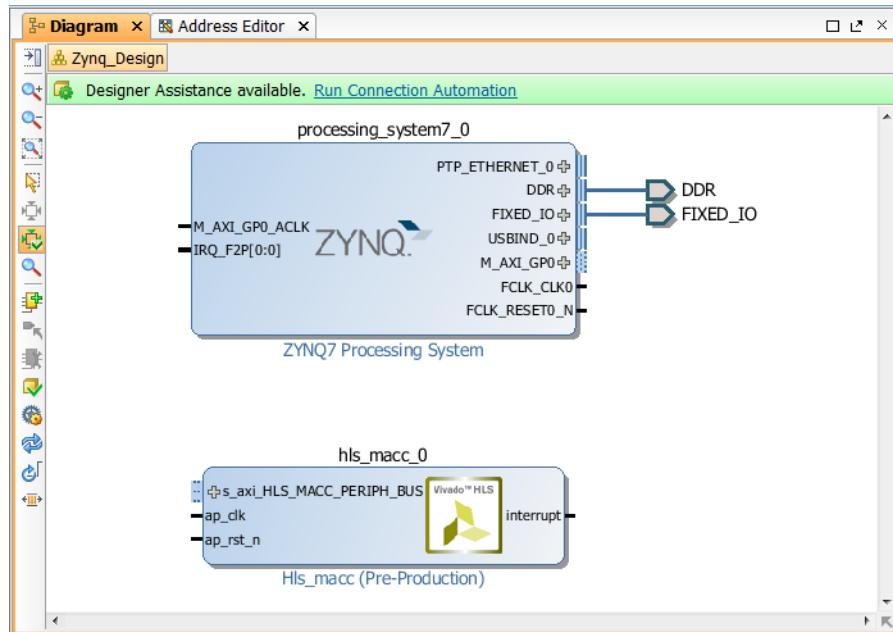

Figure 10-17: Processor and HLS IP
- b. Type `hls` in the Search text entry box and press **Enter** to add it to design (Figure 10-17).